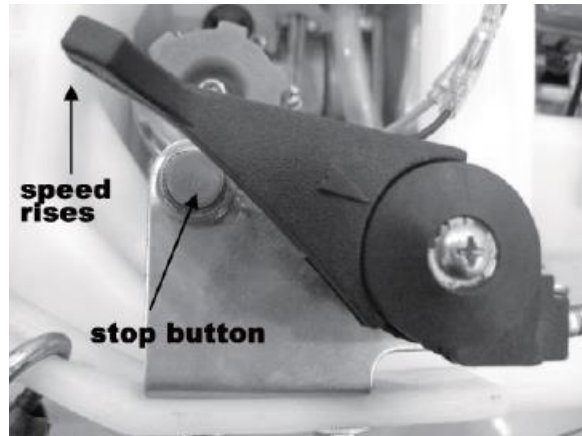

Figure 3
4.2.3 Put the fuel handle on the starting position (about one third of the whole scale). See Figure 3.